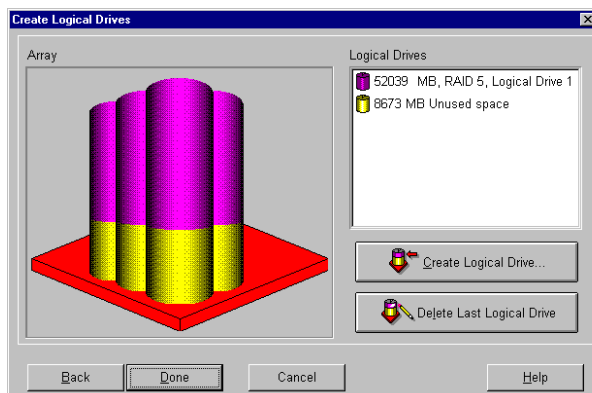

Figure 7-20: Create Logical Drives screen
5. Click **Next**. The screen shown in Figure 7-20 is displayed.